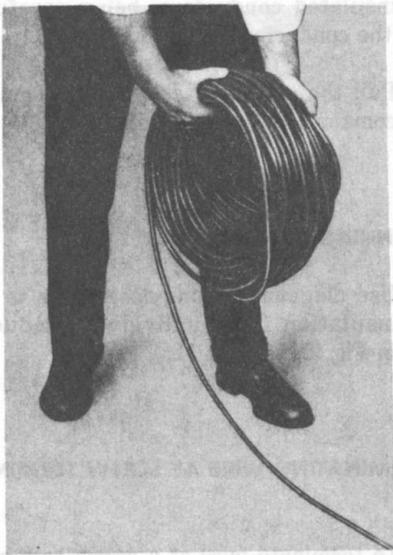

Fig. 3—Paying Out Cable
- 2.03** To pay out station cable, remove cable from coil by paying it off from outside of coil (Fig. 3).